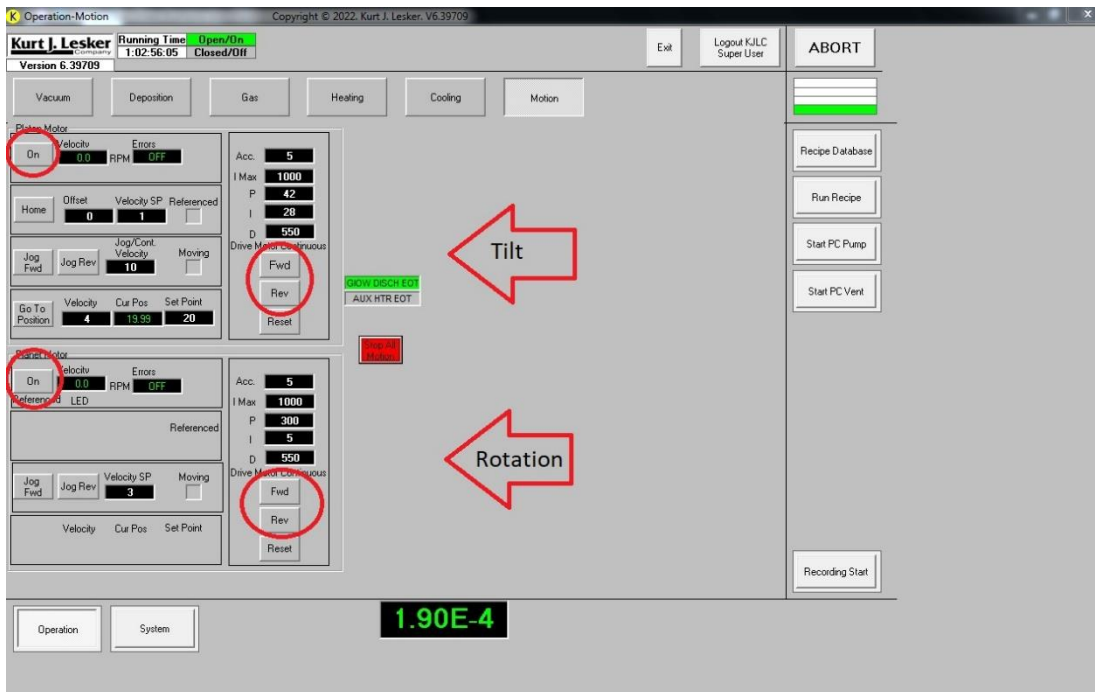

Figure 2 - Rotation and Sample Orientation
1. Click the Motion button to show Figure 2.
6. Go to Motion tab - Figure 2. Stop rotation – Press the FWD/REV buttons and OFF buttons so they are no longer green.